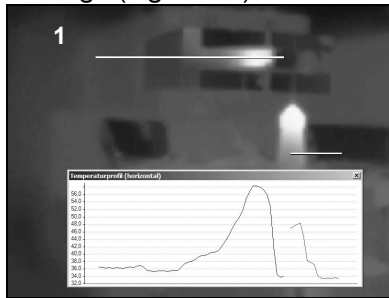

Fig. 10.9: Profile curves which are allocated to the picture (shown in the bottom window) The actual length of the profile is shown.
1. Profile curve fills out the whole profile diagram independent from the size of the profile/s (Fig. 10.9).